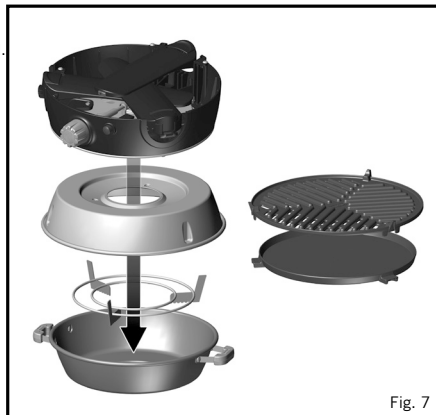

Fig. 7
- To pack away, let the unit cool. After cleaning, Fold the appliance as described in section 3 above. Place the pot / dome at the bottom of the bag. Next, place the pot stand upside down into the pot. Place the Fat Pan over the Pot and Pot Stand upside down. Then place the appliance upside down over the fat pan. Place the Grid and Flat Pan into their separate holders located in the lid of the bag, and zip them closed. Fold over the lid of the bag, and zip it closed. (Fig 7)